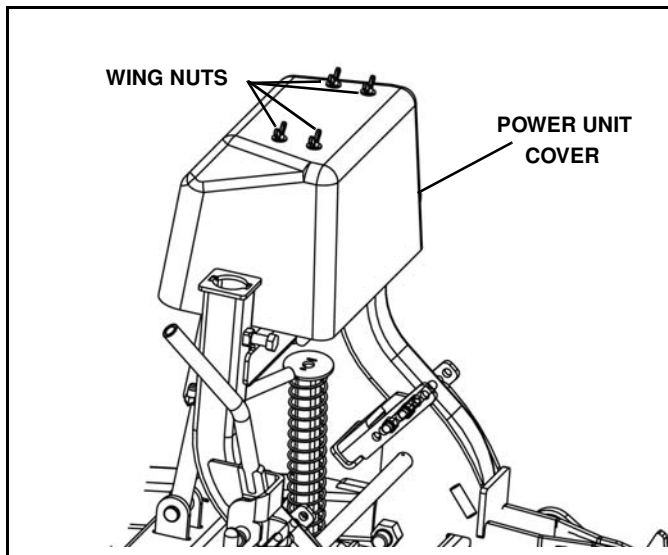

Figure 1-56
3. Remove four (4) wing nuts and flat washers from the cover. Remove the cover. (See Figure 1-56).